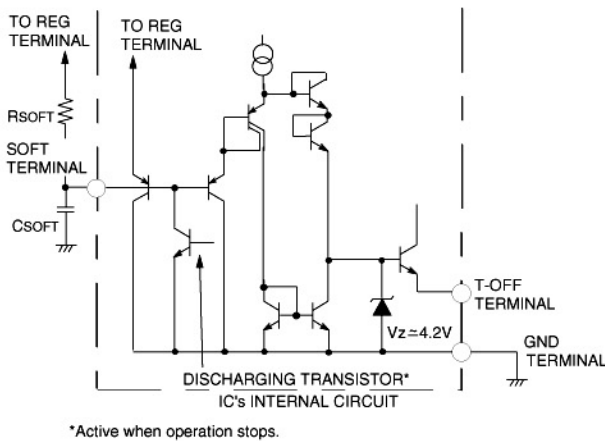

Fig.6 Circuit diagram of SOFT terminal section and T-OFF terminal section
- ① It is ideal for primary control as IC driving current is supplied from the third winding of the main transformer at the start-up because constant ON duration is obtained from start-up.
- ② It is possible to get a wide dynamic range for ON/OFF ratio by pulse-by-pulse current limit circuit.
- ③ The response characteristics at power-on is not affected by input voltage as the pulse-by-pulse limit current value is not affected by the input voltage.
Fig.6 shows the circuit diagram of the soft start. If SOFT terminal voltage is low, T-OFF terminal voltage becomes low and VT-OFF in equations (3) and (4) become low.